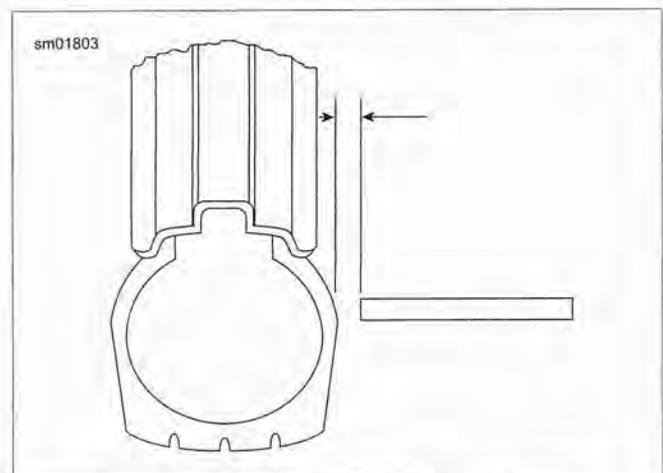

Figure 2-132. Checking Tire Lateral Runout
2. See Figure 2-132. Turn the wheel on the axle and measure tire lateral runout from a fixed point to a smooth area on the tire sidewall. Avoid measuring on raised letters or vents.